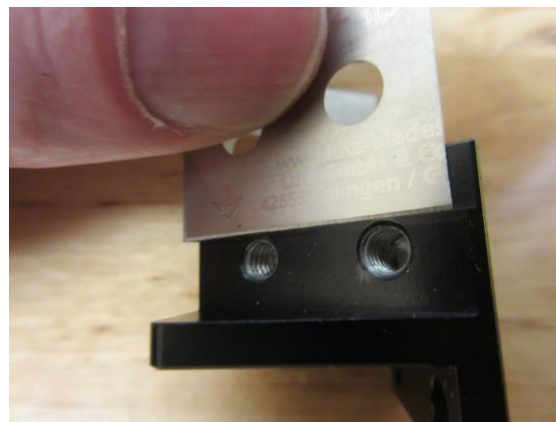

Figure 5.1.4
- When installing the new blades make sure to properly position them on the small ledge on the insert and mate the factory edges (with the up and down arrows) together **Figure 5.1.4 & 5.1.5**